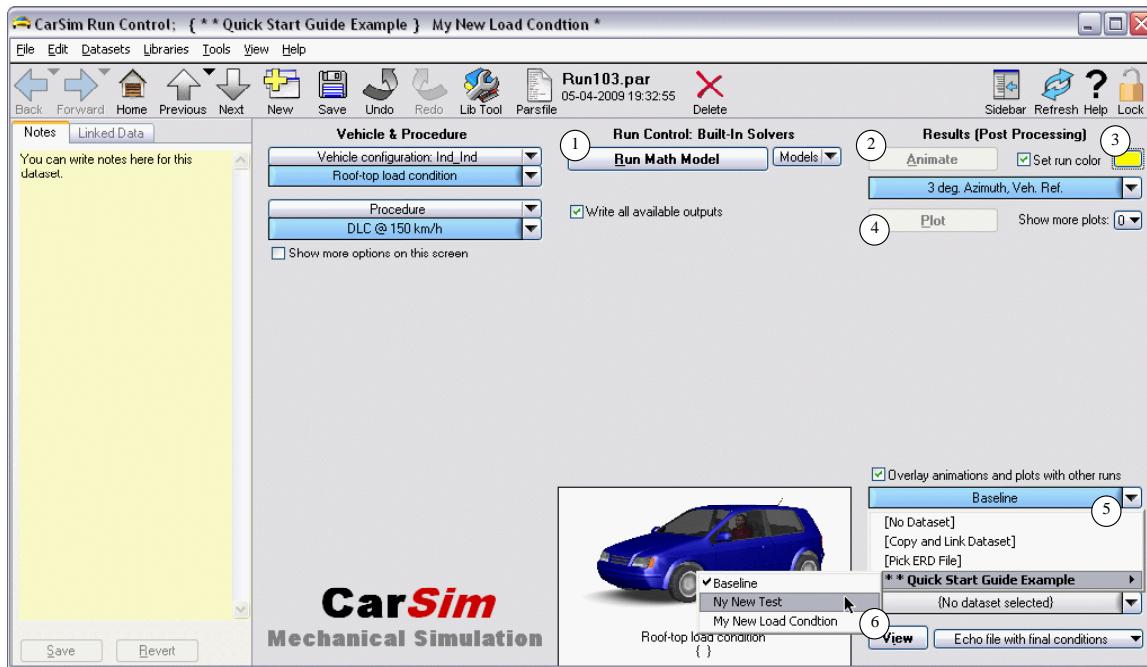
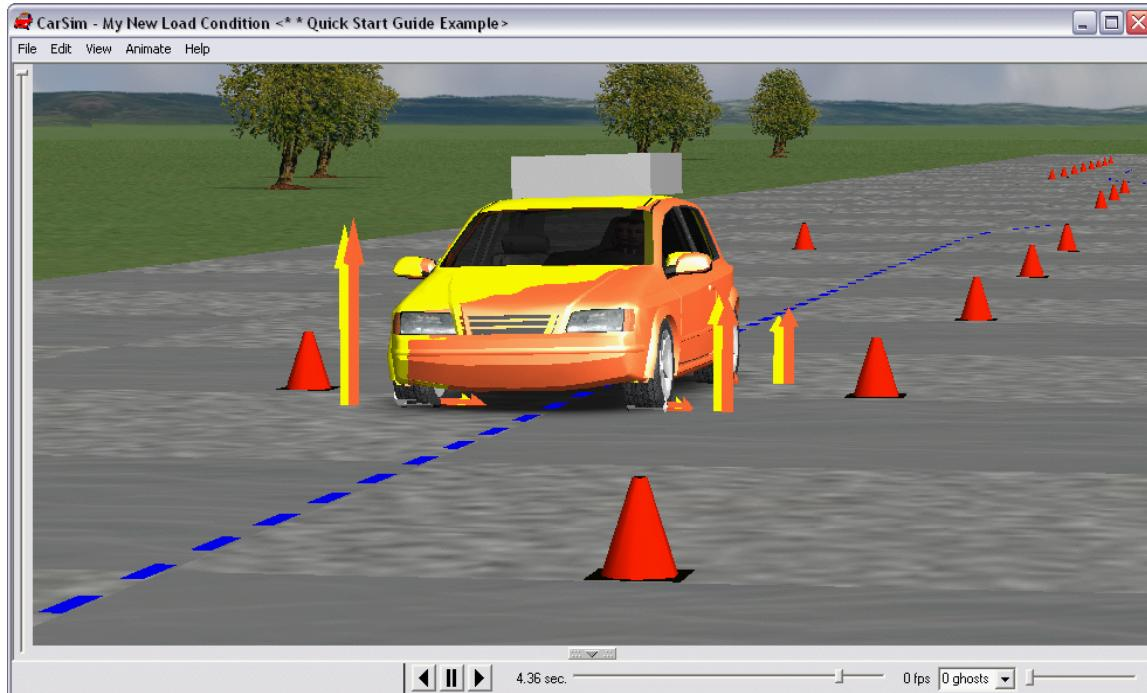
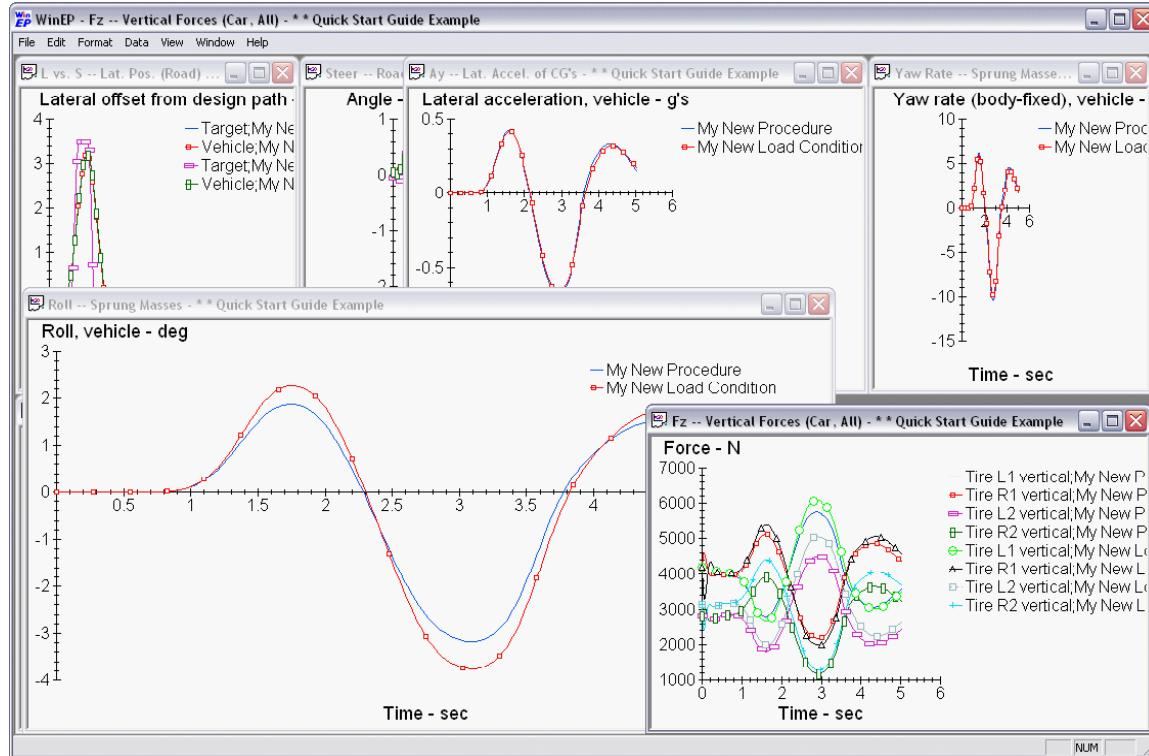

Figure 36. The **CarSim Run Control** screen, after a new loaded vehicle dataset is specified.
Figure 37. Animation with two vehicle loading conditions overlaid.
Figure 38. Plots showing sensitivity of vehicle roll and other variables to loading condition.
9. You could click the **Back** button ① to return to the **Vehicle: Loaded Condition** screen, then click it again to return to the **CarSim Run Control** screen. However, the **Home** button ② provides a quicker way to return to the main screen. Click it, and you will return to the most recently viewed Run dataset (shown again in Figure 36).
10. Now that the vehicle dataset is specified, the **Run Math Model** button ① is active. Click it to make the run.
- a. Change the run color ③ to red.
- b. Change the overlay run. Press the drop-list control ⑤ for a menu with all existing runs, and choose the run made previously: **My New Test** ⑥.
12. Click the **Animate** button ②. The animator shows the two selected runs (Figure 37). Although it is possible to see subtle differences (the vehicle with the roof load rolls a little more), this comparison is limited when using the animation as the only visualization tool. Close the animator.
13. Click the **Plot** button ④ (Figure 36). The plots also show overlays of results from both runs (Figure 38). These are the sorts of results for which CarSim is often used, in which the